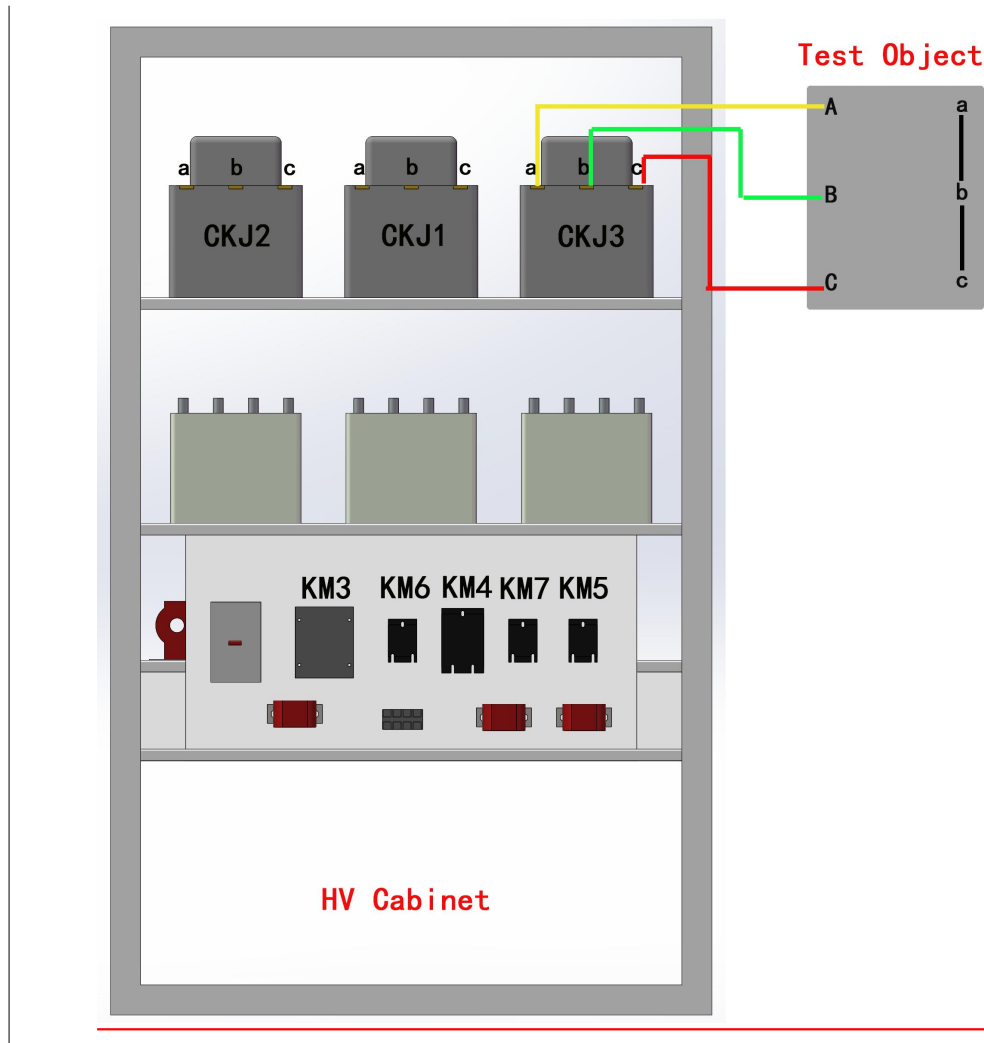

Figure 2 Connection between the high voltage cabinet and the test object
(1) **Wiring:** Make sure that the connection has been completed in strict accordance with the wiring instructions, the high voltage cabinet and the test object are connected according to Figure 2, and the intermediate transformer is connected according to the 3.0kV connection in Figure 2, and the phase sequence must be correct.
(2) Gear selection: Select the appropriate voltage and current gear according to the transformer capacity in Table 3 in Appendix 2. The current gear is adjusted by CT Switching, and the corresponding signal light will be on after selection